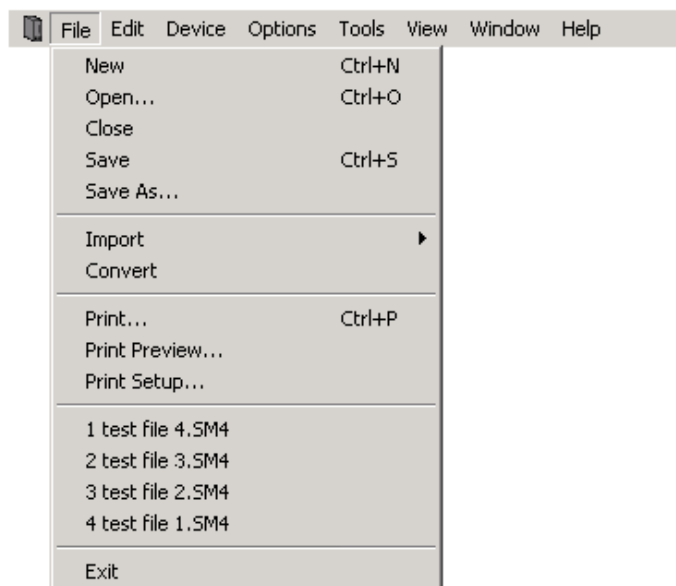

Figure 8: File Menu
- Press ALT and press the underlined letter in the menu name. Then press the underlined letter in the option name. For example, to open a new configuration file, press ALT and press F to open the File menu. Then press N for New, see Figure 8.
The **File** menu on the menu bar contains many different options for file handling (i.e., saving files, importing files, etc.). Figure 8 below shows the **File** menu expanded.